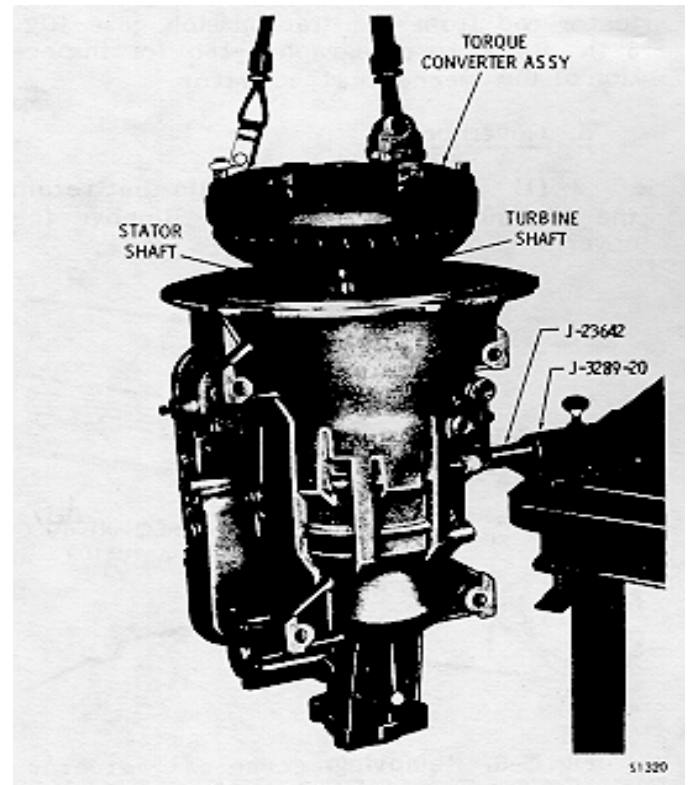

Fig. 5-2. Removing torque converter during overhaul
(1) Rotate the fixture retained transmission housing until the torque converter located at the top (fig. 5-2).
(2) Remove the bolts and nuts that hold the converter retaining strap to the transmission housing.
(3) Attach a three-strand sling to the torque converter. Lift the converter from the transmission housing and place it on a work table (fig. 5-2).
(4) Refer to paragraph 6-3 for inspection of the AT 545 torque converter assembly,